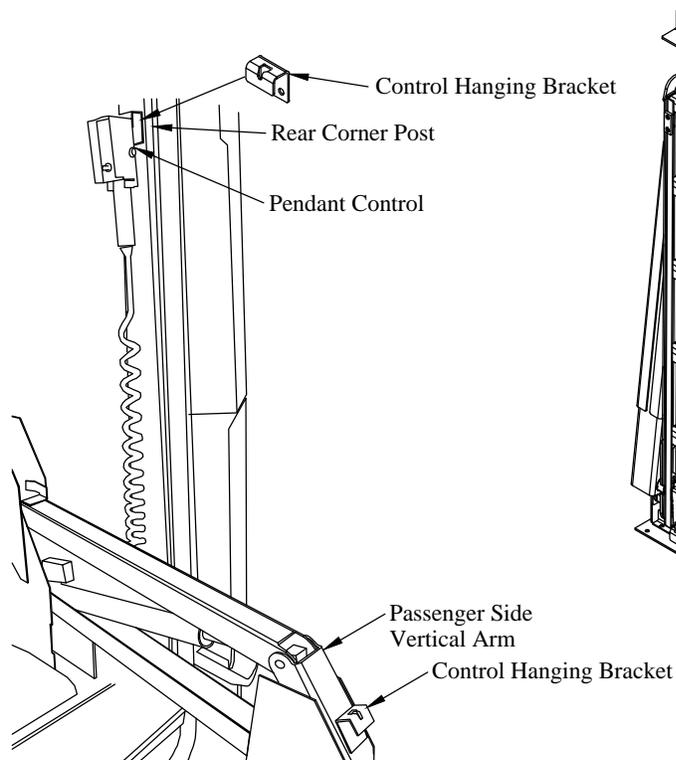

Figure 24: Control Hanging Brackets.
6. **Select** a location to install the control hanging bracket. Use a location on the passenger side rear corner post of the van at a height that allows the entire pendant cord to be completely inside the van when stored (Figure 24).
11. **Install** second control hanging bracket with supplied 3/8" bolts on the passenger side vertical arm where the lifting angle was removed (Figure 24).